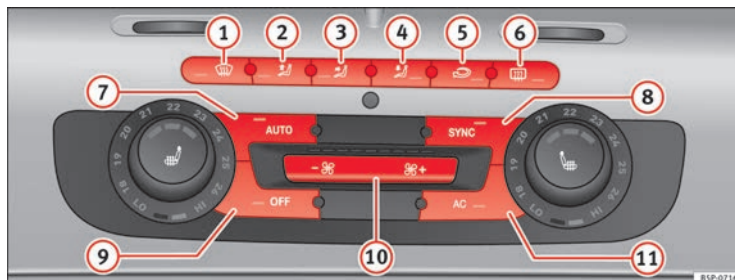

Fig. 131 On the dash panel: 2C Climatronic controls. ►
- To enter manual mode, press one of the buttons ⇒ Fig. 131 ① to ⑤ or press the air flow control ⑩. The selected function is shown on the radio or navigator display.
- Press the button  ⇒ Fig. 131 ② to switch air recirculation mode on or off. It is switched on if the following symbol appears in the display .